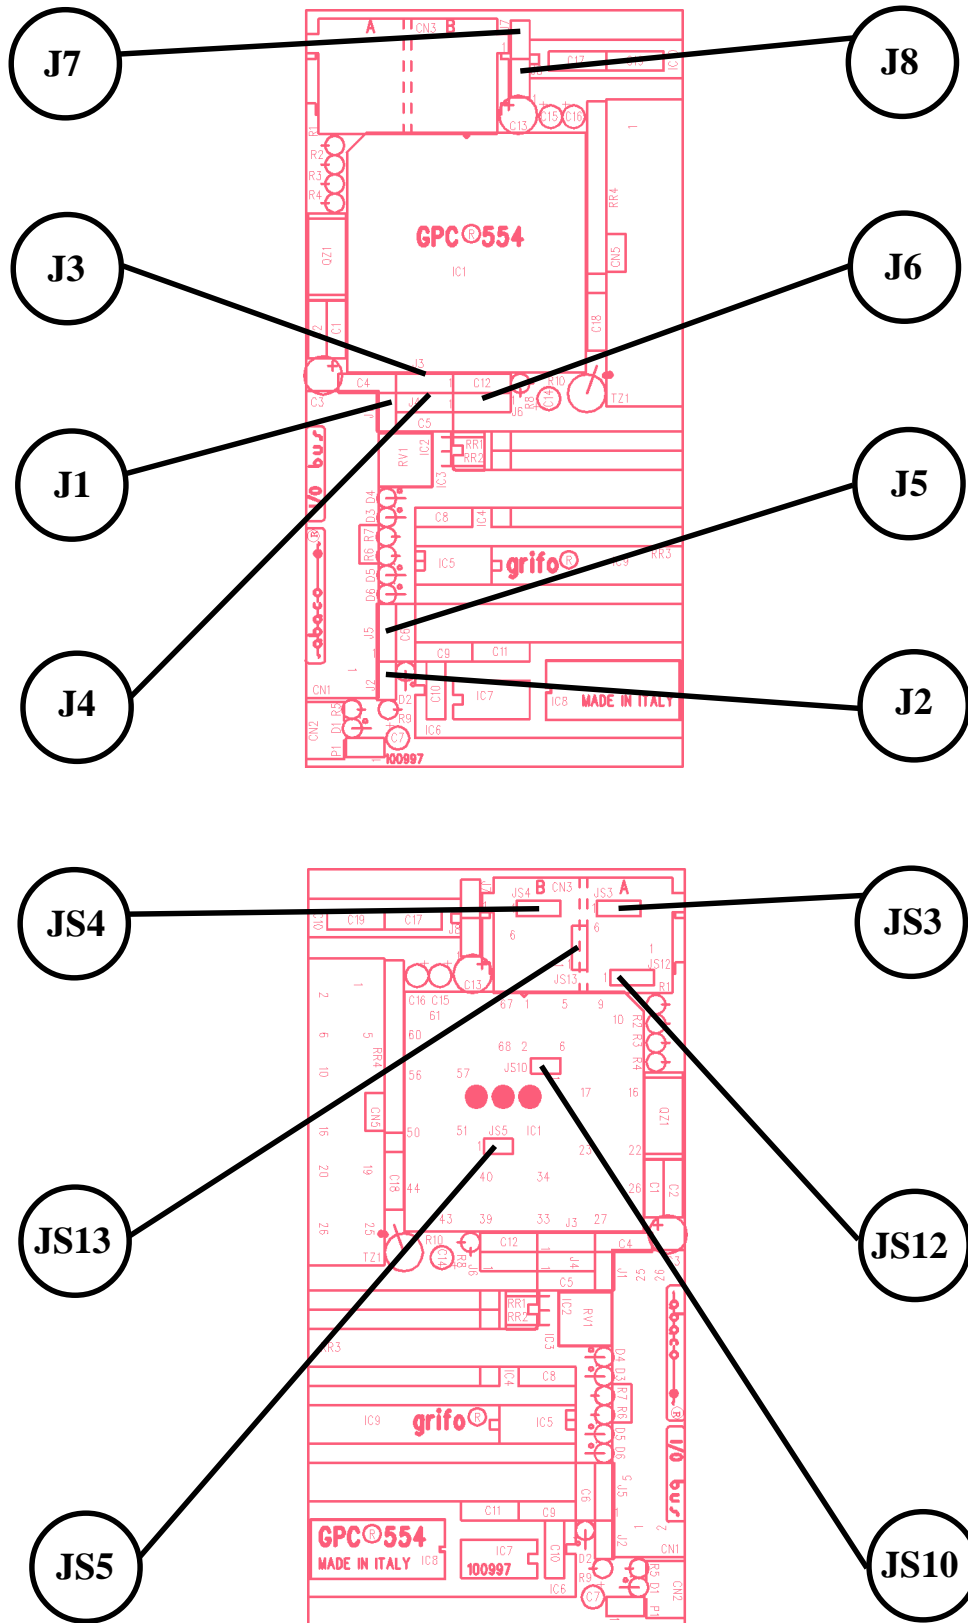

FIGURE 15: JUMPERS LOCATION (COMPONENTS SIDE AND SOLDERING SIDE)
**GPC® 554** card is equipped with 3 jumpers (J2, J7, J8) that can be read by software. They are normally used for system configuration (operating mode selection, card number programming inside a network system, firmware configuration, etc.). The J2 status ("0" = CONNECTED; "1" = NOT CONNECTED) can be acquired by reading the RUN/DEBUG register that is allocated in the microprocessor addressing space by the control logic, as described in the paragraph "I/O ADDRESSES". The J7 and J8 status ("0" = CONNECTED; "1" = NOT CONNECTED) can be acquired by reading respectively the pin P5.7 and pin P5.6 of the CPU. For recognizing J2, J7 and J8 location on **GPC® 554**, please refer to figure 15.
The following tables describe all the right connections of **GPC® 554** jumpers with their relative functions. To recognize these valid connections, please refer to the board printed diagram (serigraph) or to figure 2 of this manual, where the pins numeration is listed; for recognizing jumpers location, please refer to figure 15 and appendix A.